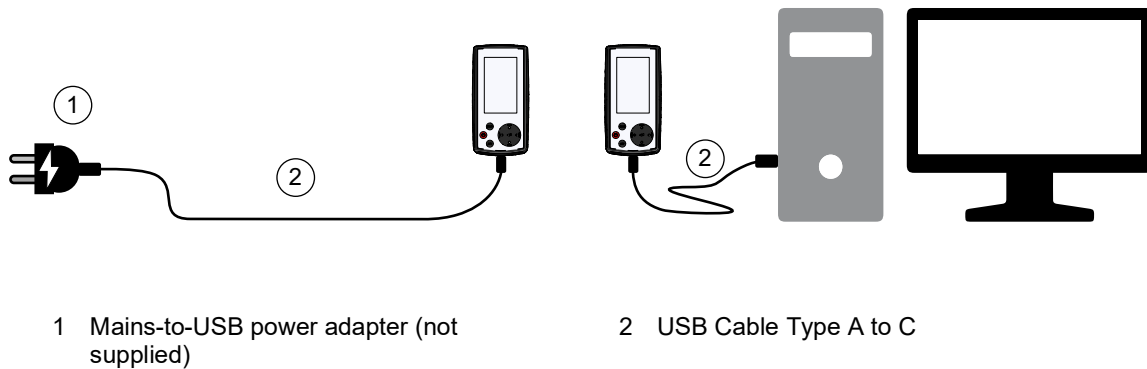

Figure 1-5: Power and USB Connection
1. Use the USB cable supplied with the Calibrator. Connect its smaller USB C plug into the USB connection on the bottom of the Calibrator. See Figure 1-5 on page 6.